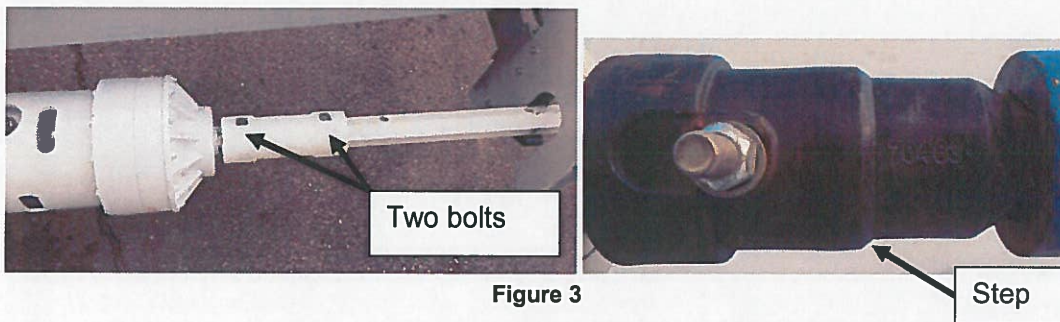

Figure 3
- b. This bulletin does not apply to kelly bar assemblies that have a digger drive coupler bolted to both the digger drive and the hex shaft or welded couplers with a step and no "TEREX T70463" logo cast into the coupler material as shown in Figure 3.